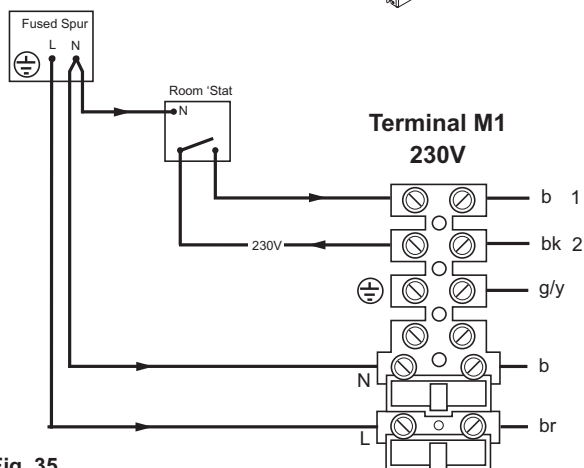

Fig. 35
7. Remove the link between connections 1 & 2. The 230V supply at connection 2 must be connected to the thermostat. The switched output from the thermostat must be connected to connection 1. (Figs. 35 & 36). If the room thermostat being used incorporates an anticipator it **MUST** be wired as shown in Figs. 35 & 36.